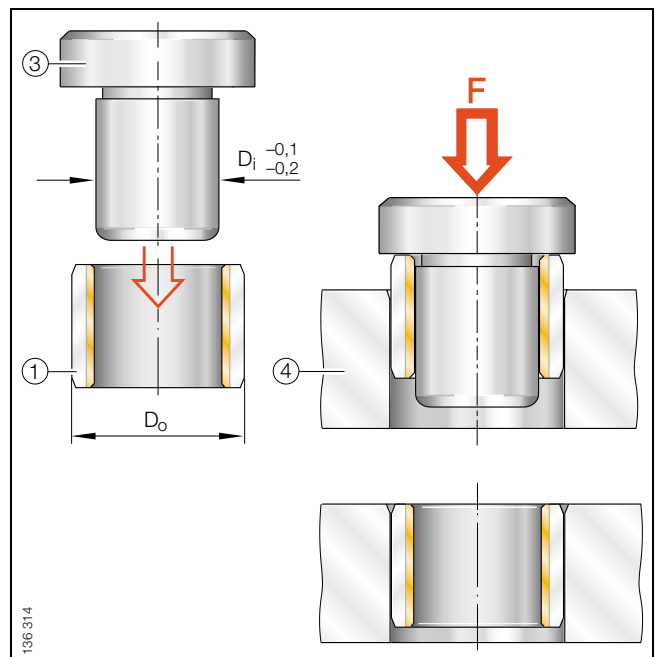

Figure 22 · Pressing in flush, $D_o \leq 55$ mm
- press in flush using arbor without auxiliary ring according to Figure 22